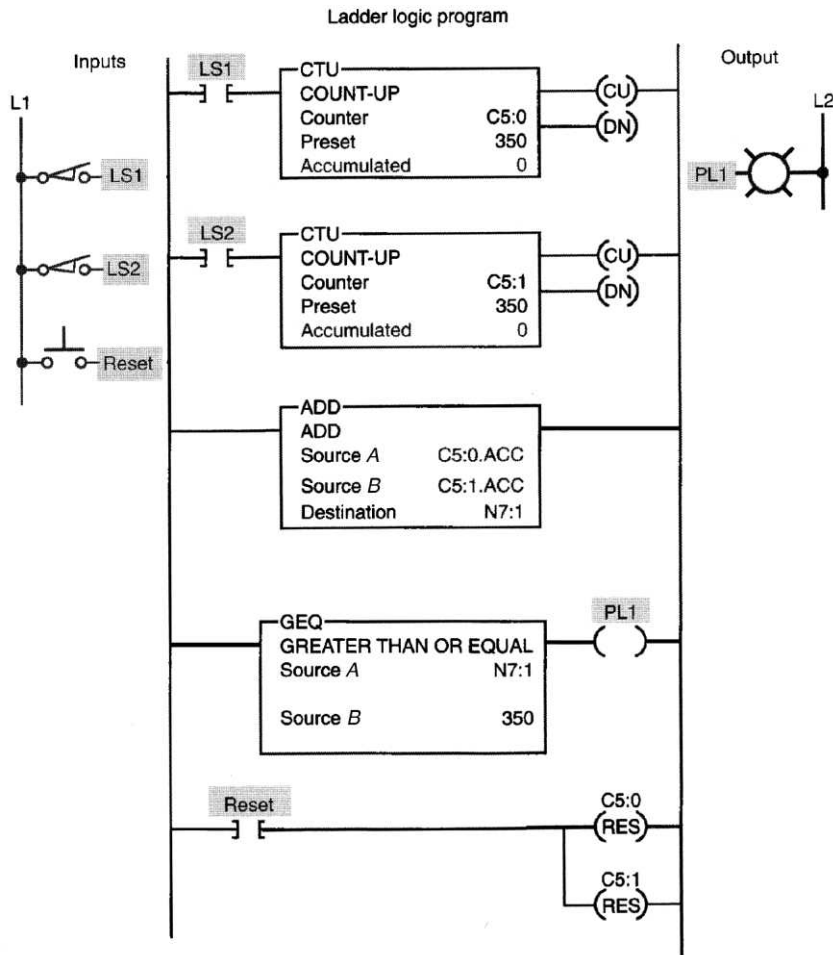

Figure 11-2 Counter program for question 3.
- 3-1. In the counter program of Figure 11-2, assume the accumulated count of counters C5:0 and C5:1 to be 124 and 248, respectively. As a result, 3-1._____